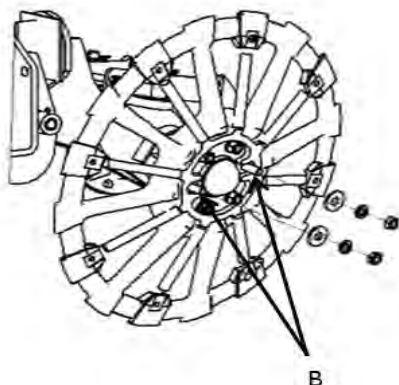

Figure 44: Adding or Removing Center Mount Filler Wheels
1. Remove the lock nut, lock washer, and flat washer from bolts (B) as shown in Figure 44.